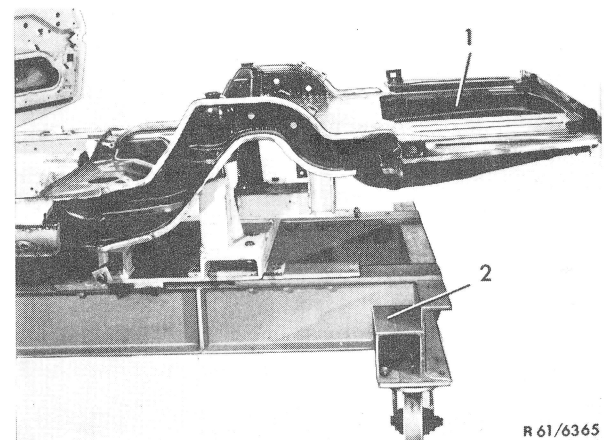

Fig. 3
9 Place rear floor (1) on adjusting bench (2) and tack weld (Fig. 3).